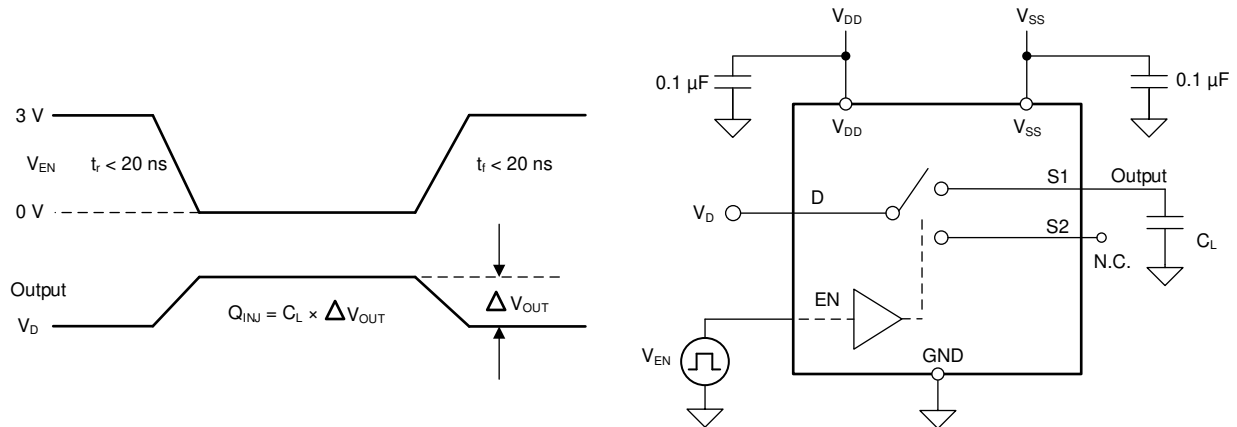

Figure 7-9. Charge-Injection Measurement Setup
The TMUX6219-Q1 has a transmission-gate topology. Any mismatch in capacitance between the NMOS and PMOS transistors results in a charge injected into the drain or source during the falling or rising edge of the gate signal. The amount of charge injected into the source or drain of the device is known as charge injection, and is denoted by the symbol Q_C . Figure 7-9 shows the setup used to measure charge injection from source (Sx) to drain (D).